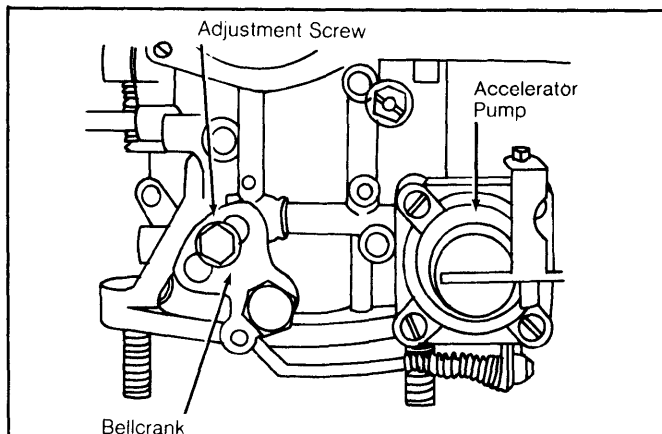

Fig. 1: Accelerator Pump Stroke Adjustment
3) On 34 PICT-3 carburetor, adjust slotted bellcrank if quantity per stroke varies significantly from 1.7 cc. Loosen adjustment screw and move bellcrank along its slot until correct quantity is obtained. See Fig. 1.